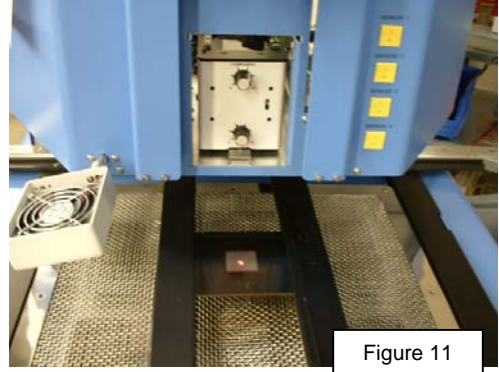

Figure 11
- v. Align PCB so red laser sighting light is roughly centered on BGA. (Figure 11)